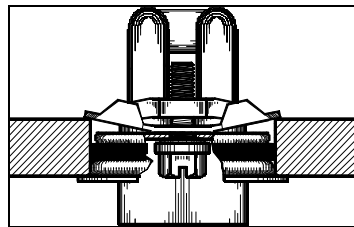

Figure 3 – Heater Tightened In Block
7. Tighten the locking screw clockwise to a maximum torque of 2.26-2.82 Nm (20-25 in.- lbs.). (Fig.3)